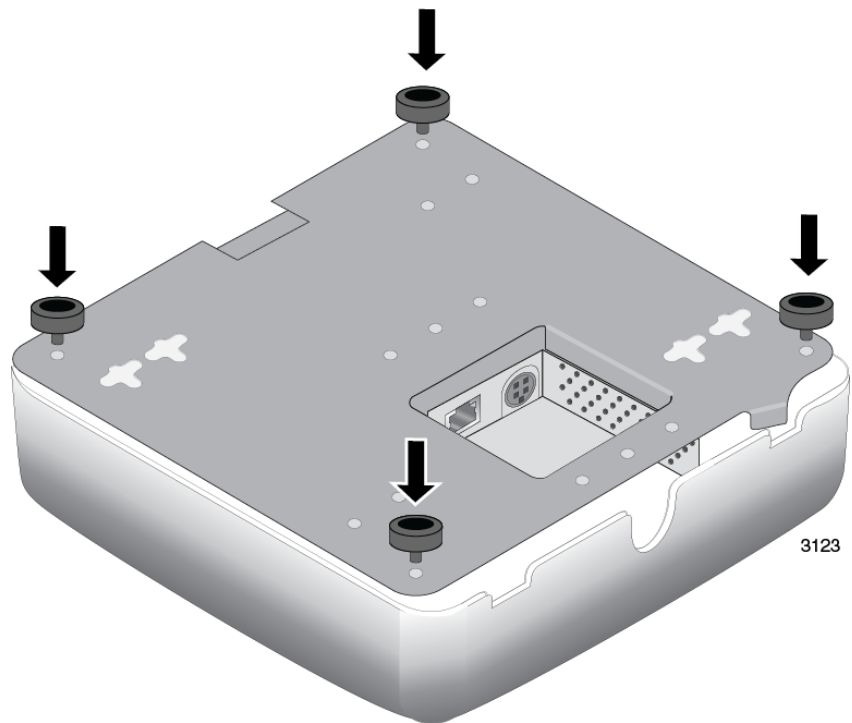

Figure 3. Installing the Rubber Feet
2. Install the rubber feet that come with the wireless access point to the bottom panel. Refer to Figure 3.